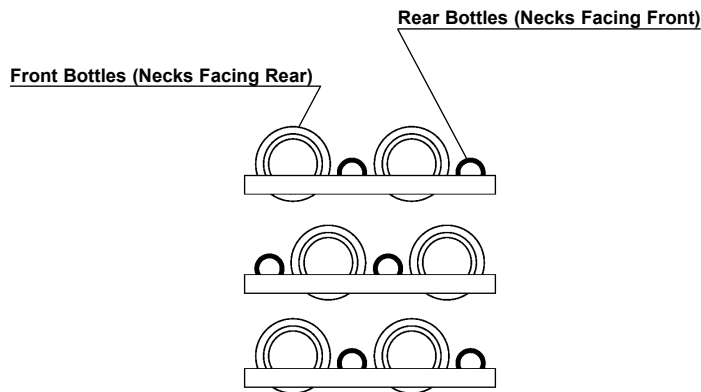

Figure 3
Wine Bottle Storage: The slide-out shelves each hold four(4) to seven(7) standard size bottles depending on your specific model. See Figure 3 for typical recommended wine bottle storage configuration.